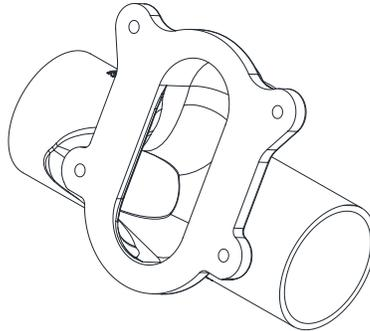

Figure 1
1. Lay carrier fitting on the floor, waste line barrel down. See Figure 1.